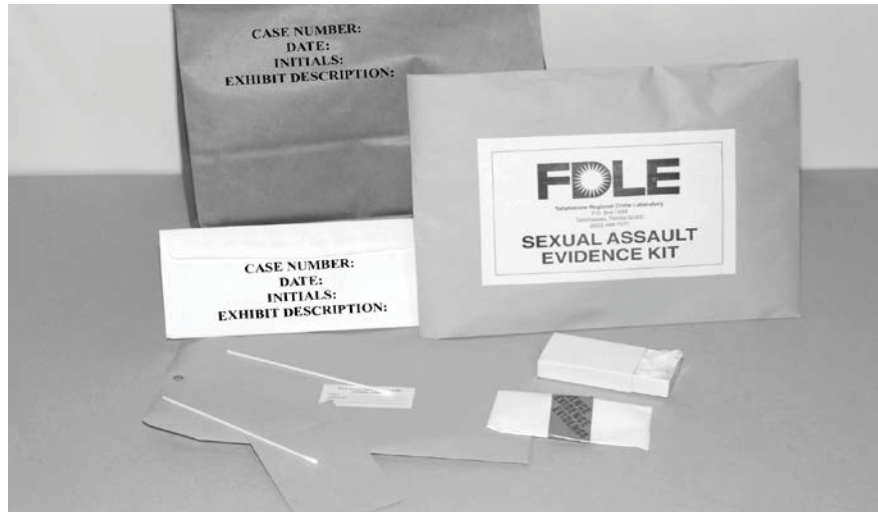

Figure 5—Correct Packaging of Biology (Screening and DNA) Evidence
- a. If there is liquid blood at a scene, e.g., a pool of blood on the floor, swab some of it on a sterile cotton swab, dry at room temperature, package in a paper bag, label, seal, and initial. (*Figure 5*).